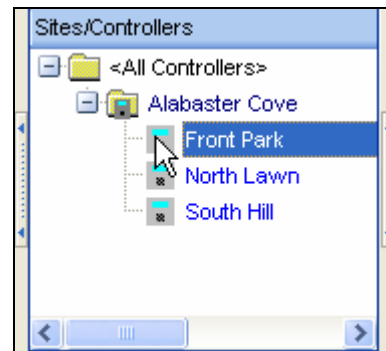

Figure 12.1.9
- Now highlight the controller from the **“Site / Controller”** window that you want to get rain weather data from. Remember this controller must have a rain bucket attached. (Figure 12.1.9).